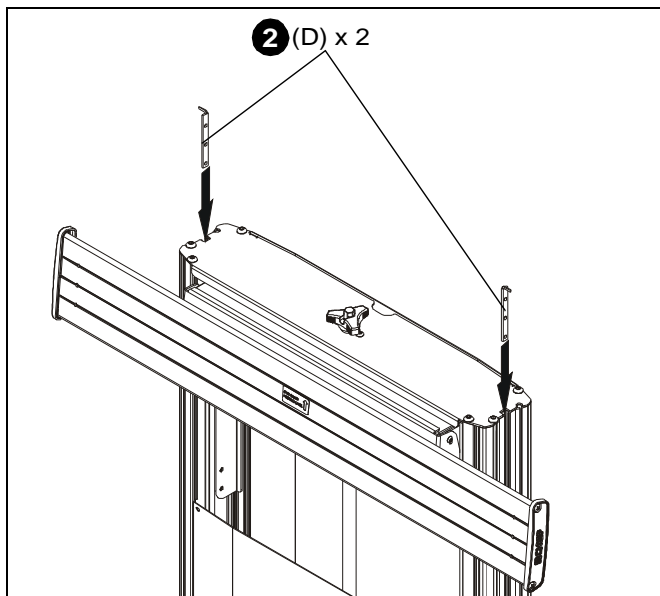

Figure 2
2. Slide accessory bracket (D) down side channel of cart. (See Figure 2)